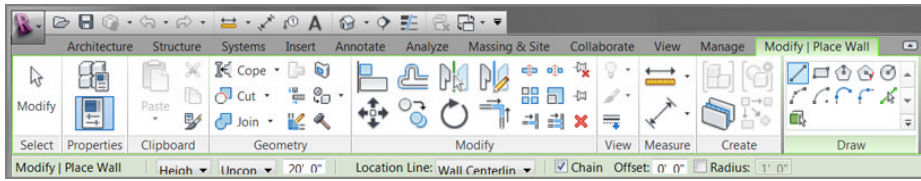

FIGURE 1.5: The Options bar allows you to have additional choices for the current command.
2. After you click the Wall button, notice that Revit adds a tab to the Ribbon with additional choices specific to the command you're running, as shown in Figure 1.5. You may also notice that Revit places an additional Options bar below the Ribbon for even more choices.